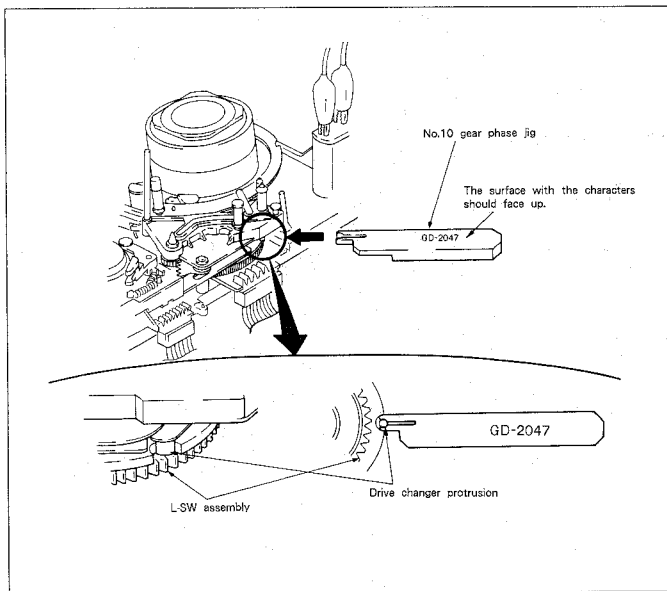

Fig. 7-13.
- 1) Mount the threading ring assembly ⑪ so that it becomes in the unthreaded state (pinch roller arm assembly is on the front panel side.) (Confirm that is in the state in 1. Removal 2.)
- 2) Mount the ring roller ⑩ and ring stopper ③ and tighten with the two screws ⑥. (No.8 guide assembly ⑦ should be closer to the front panel than the ring stopper ③.)
- 3) Mount the ring roller ③ and roller top plate ⑦ and tighten with screw ⑥. (Confirm that the threading ring assembly matches the three ring rollers.)
- 4) Put a half drop of oil on the shaft ⑫.
- 5) Check that the protrusions on the drive changer assembly are in the indentations of the L-SW assembly and insert the No.10 gear phase alignment jig (Ref. No. J-9). (See Fig. 7-13.)
- 6) Mount No.10 gear ⑤ and fix stopper washer ④ while pushing the No.8 guide assembly ⑦ against the ring stopper ③.